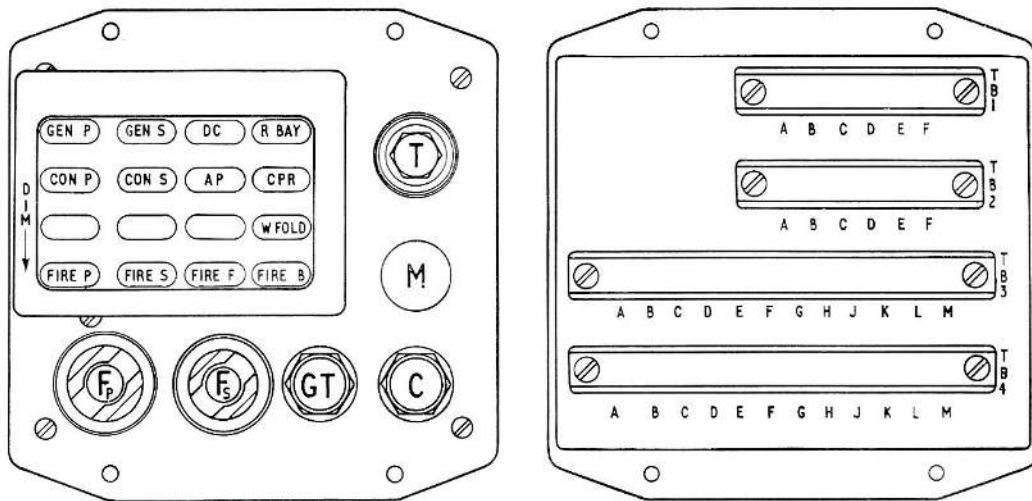

Fig. 1. Indicator Unit, Type C6600 (front and rear view)
3. The C6600 unit groups, on one indicator panel, the appropriate warning lamps for the aircraft as shown in fig. 1. A hinged caption plate is fitted over the lamps, the appropriate caption being illuminated by the lamp when a fault appears. Connection to the lamp and switches are made via four terminal blocks on the rear of the unit.